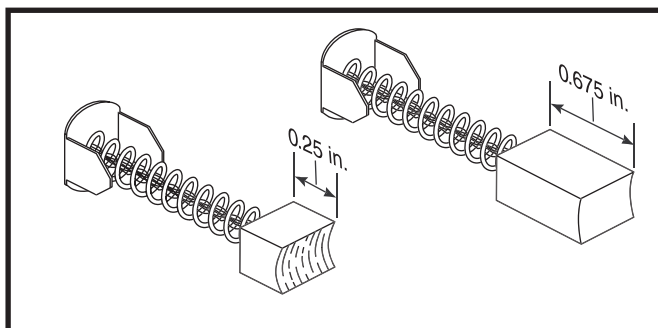

Figure 28. Motor Brushes
- If the brushes are worn below 0.25 in. or they are physically damaged, then replace the brushes and retest the system. **See figure 28.**
- If the brushes are not worn below 0.25 in. or they are not damaged, then replace the left motor (8) and retest the system.